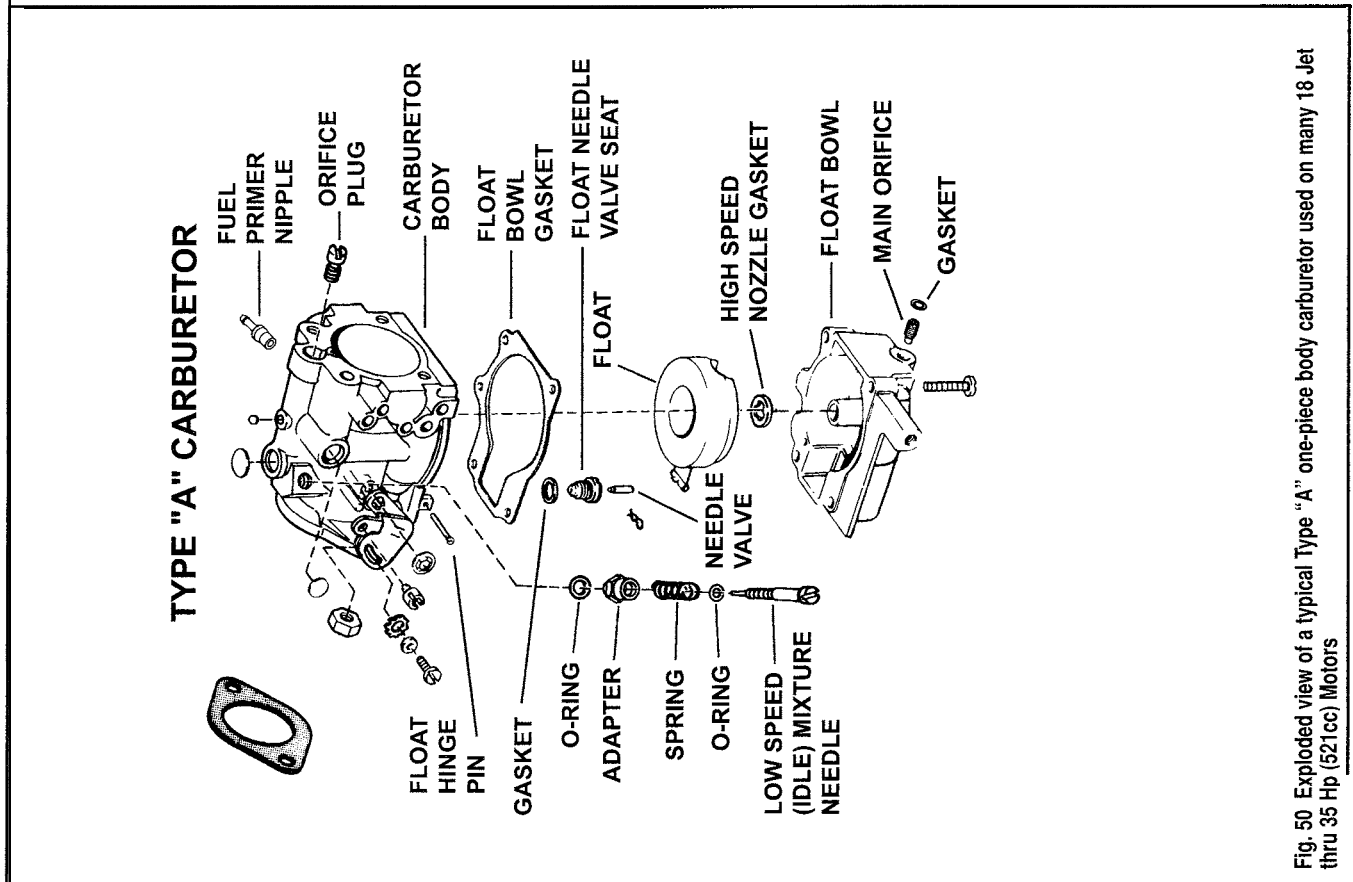

Fig. 50 Exploded view of a typical Type "A" one-piece body carburetor used on many 18 Jet thru 35 Hp (521cc) Motors
- See Figures 50 thru 53
◆ See Figures 50 thru 53